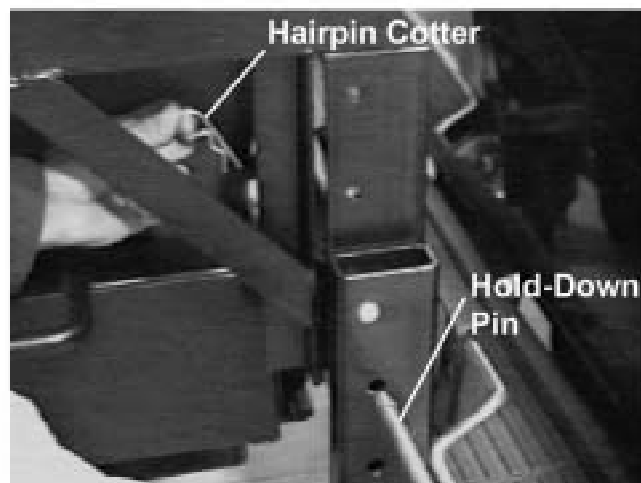

Figure 12
4. Insert hold-down pins on each side and secure with hairpin cotters. See Figure 12.